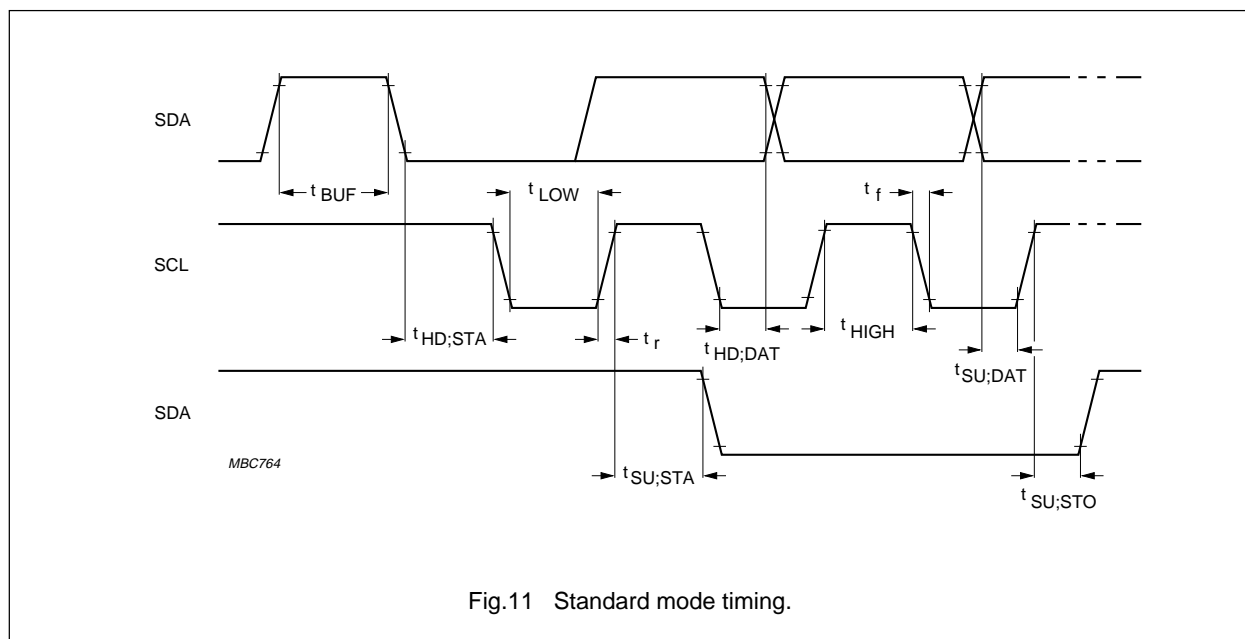
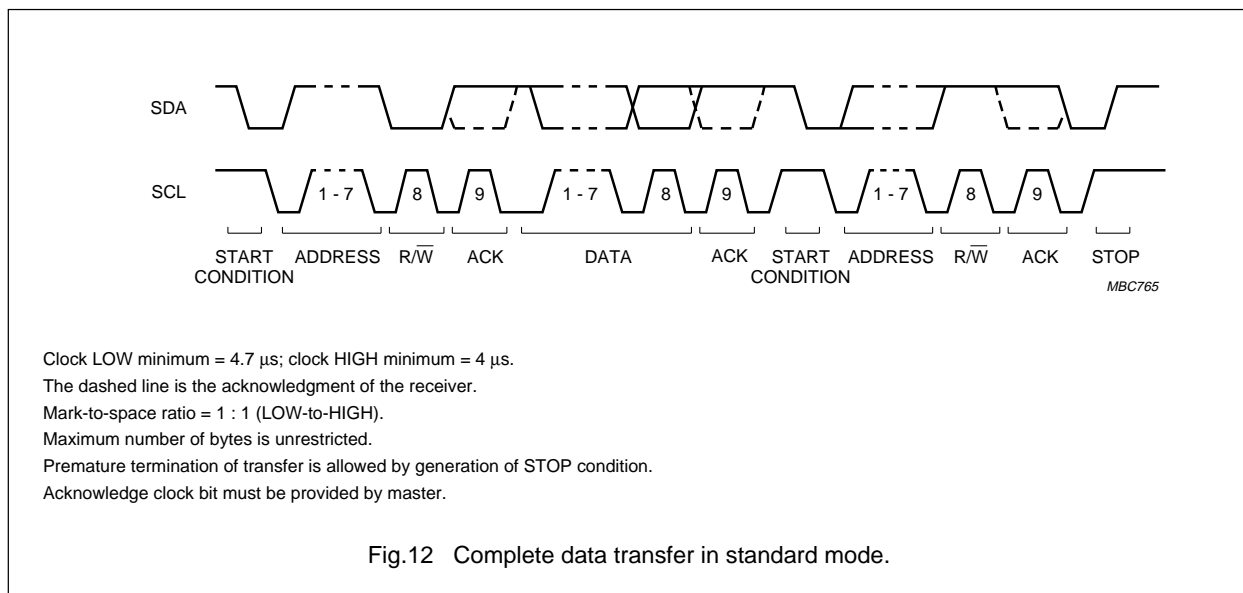

Fig.11 Standard mode timing.
Fig.12 Complete data transfer in standard mode.
Masters generate a bus clock with a maximum frequency of 100 kHz. Detailed timing is shown in Fig.11, where the two signal levels are LOW =  $V_{IL}$  and HIGH =  $V_{IH}$ , see Chapter 11. Figure 12 shows a complete data transfer in standard mode. The time symbols are explained in Table 6.
**Table 6** Explanation of time symbols used in Fig.11